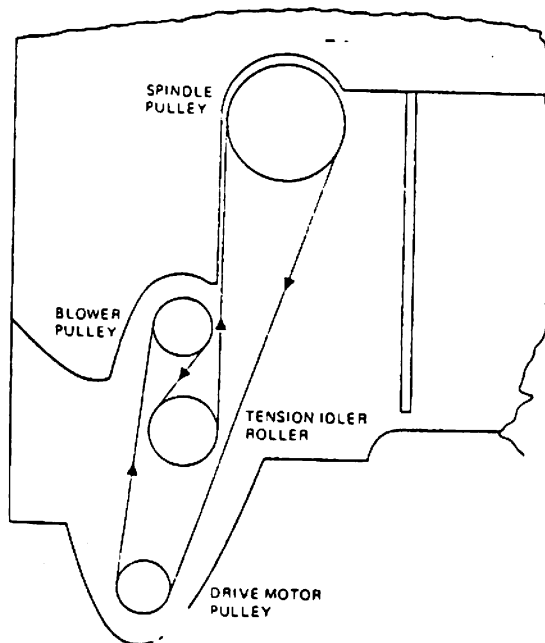

FIGURE 1, BELT THREADING PATTERN
REPLACEMENT PROCEDURE 1.0 Belt Removal Location of pulleys and direction of rotation is indicated in Figure 1. To remove the belt, proceed as follows: <ol style="list-style-type: none"><li>1. Remove three No. 10 machine screws securing the belt guard in place.</li><li>2. Slide the belt guard forward until it drops away from the base.</li><li>3. Insert a large shanked screwdriver between the tension idler plate and the base. Compress the tension idler spring until the belt is released from the motor pulley.</li><li>4. Remove the belt from area.</li></ol>
1. Locate the motor pulley as shown in Figure 1.
The following sequence is followed when replacing the drive belt. Refer to Figure 1 for threading pattern.